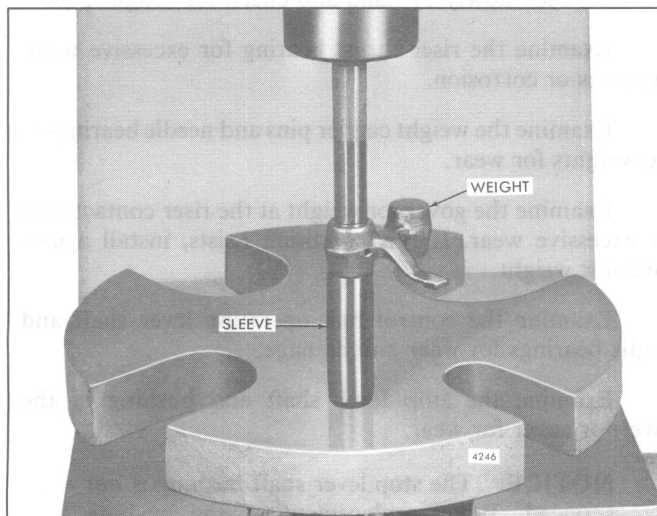

Fig. 12 – Removing Governor Weight Bearings using Tool J 8985
- If removal of the needle bearing is necessary, support the weight on a 5/8" inside diameter sleeve on the bed of an arbor press (Fig. 12). Place the bearing remover J 8985 on top of the bearing and press both bearings out of the weight.